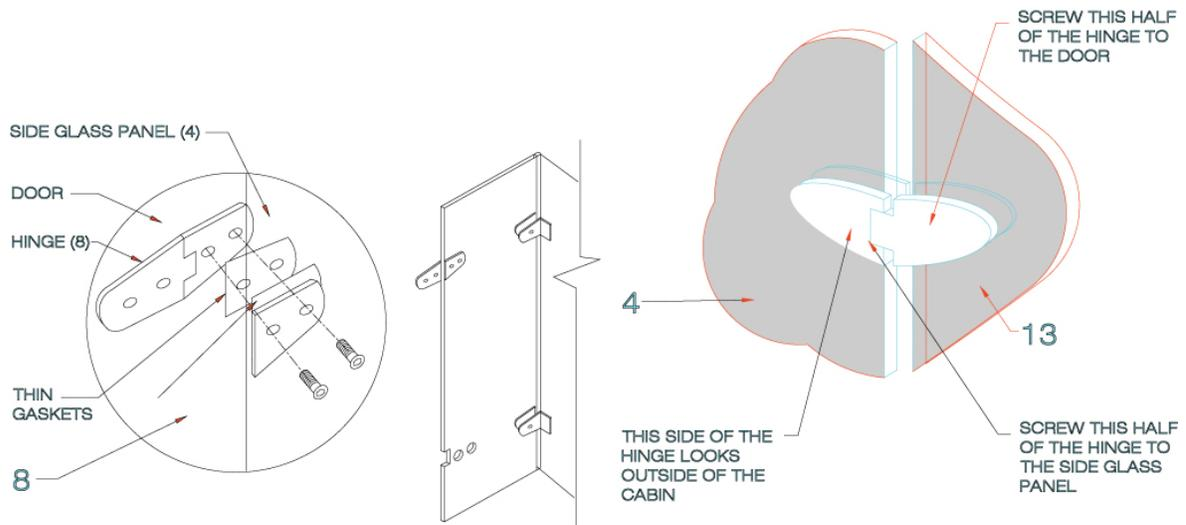

FIG.6
2. Position hinges on the side glass panel. [SEE FIG.6]